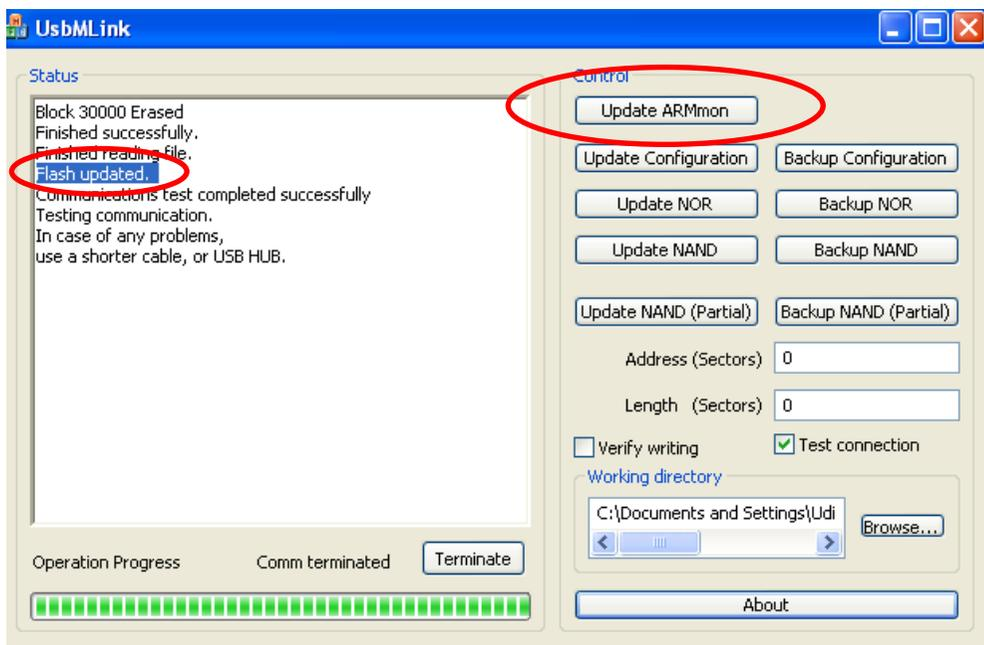

Figure 116
- Open the "USB M LINK" SW and press "Update ARMmon" (Figure 116). The update will begin running and is completed when the "Flash updated" message is displayed in the left side of the window.